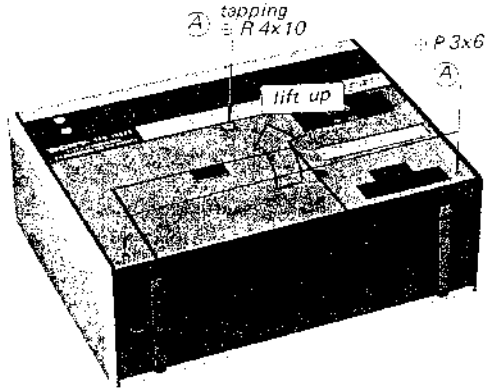

Fig. 2-1. Rear cabinet removal
2. Remove the three screws marked **A** in Fig. 2-1.